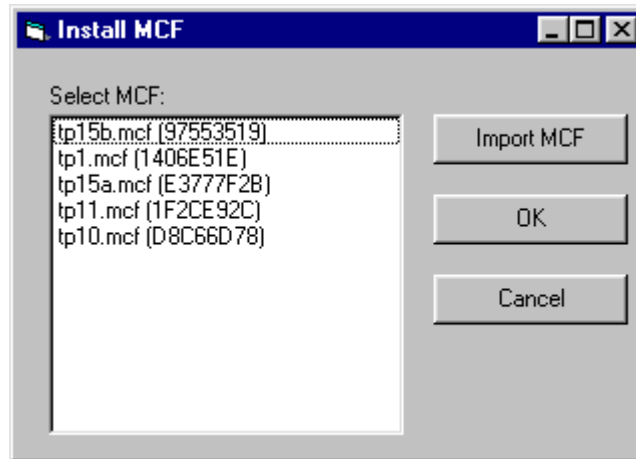

Figure 2-5
8. The **Install MCF** window is displayed to allow the user to select from a list of MCFs (figure 2-5). Also if required, additional MCFs may be imported from this window.